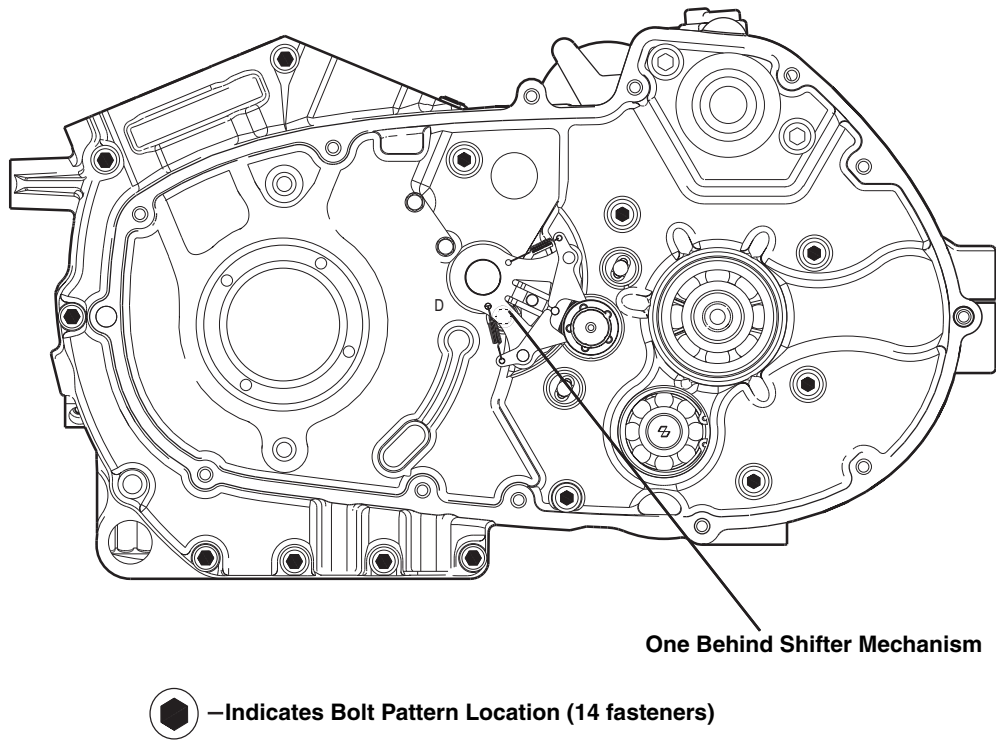

Figure 6-51. Crankcase Fasteners
16. See Figure 6-51. Remove crankcase bolt set (14 fasteners).